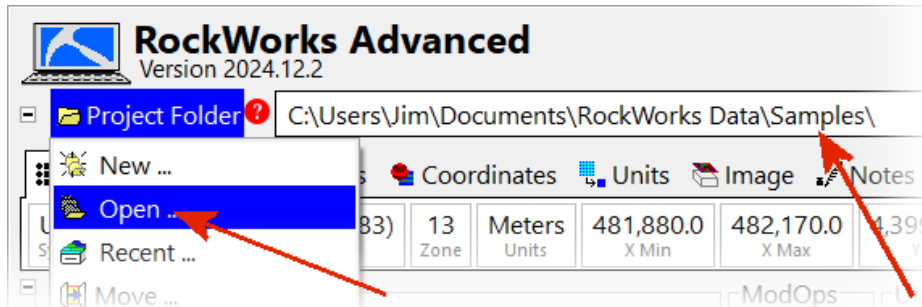

Figure 4
- Launch RockWorks and use the Project Folder option (Figure 4) to set the project folder to the Documents \ RockWorks Data \ Samples folder.